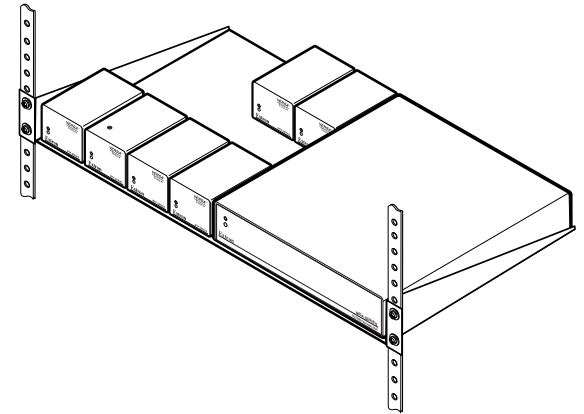

Figure 2-9 — Mounting the MTPs on a standard rack shelf
- Standard universal 1U rack shelf kit (part #60-190-01) (figure 2-9)